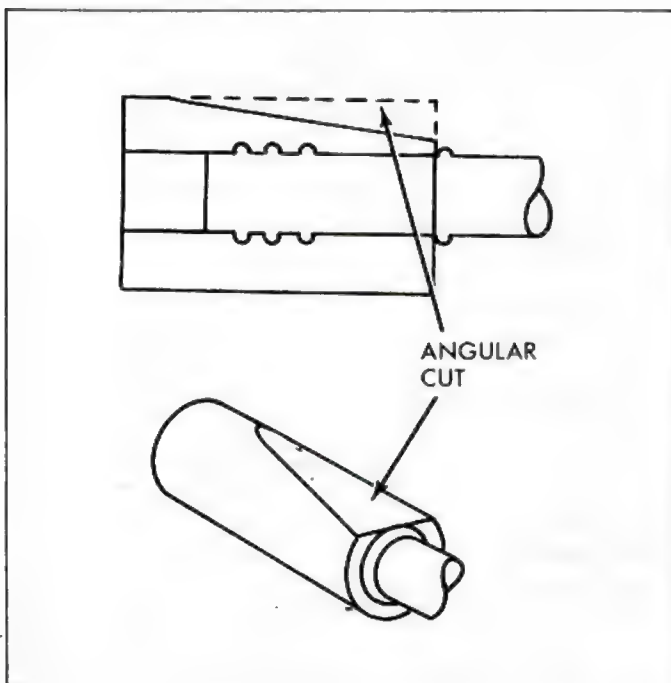

Fig. 21—Recommended Hose Removal Procedure
1. Carefully, with a sharp knife, make an angle cut in the hose as shown in Figure 21. This should loosen the hose so that it may be worked off the fitting.